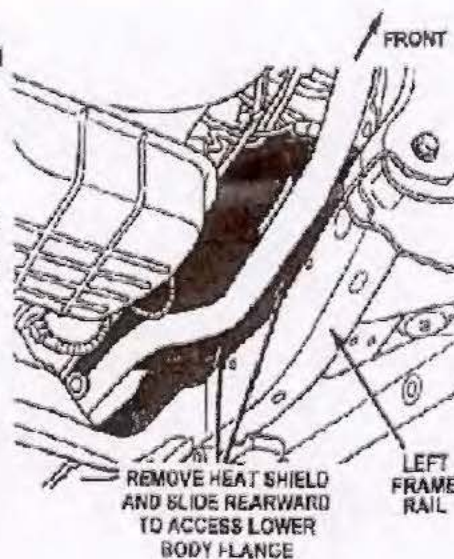

Figure 4
32. Install the fuel line heat shield (Figure 4).